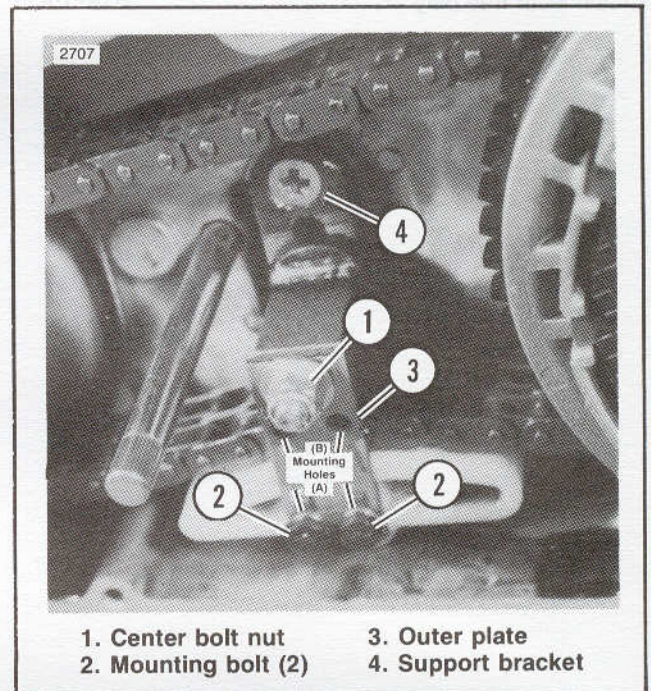

Figure 6-2. Replacing the Adjusting Shoe
2. See Figure 6-2. Remove the center bolt nut and washer (1) and move the shoe assembly up or down to obtain the specified free play.
Replacing the Adjusting Shoe (Figure 6-2)
1. See Figure 6-2. Remove primary cover. Remove the center bolt and washer (1) and two bottom bolts (2). Remove the shoe and replace it.